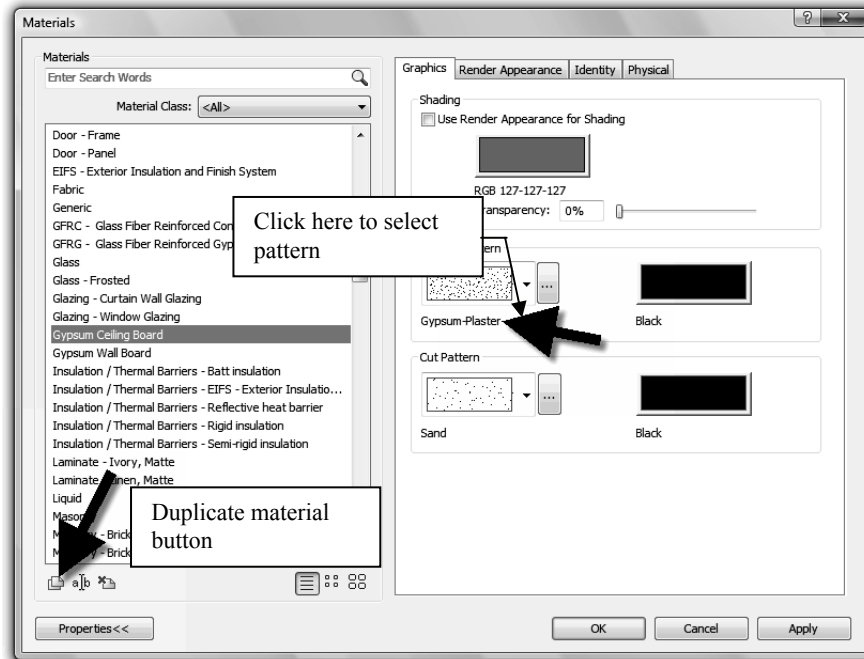

Figure 7-4.8 Materials dialog
14. Select *Gypsum Wall Board* in the *Name* list and then click the **Duplicate** button and enter the name: **Gypsum Ceiling Board** (see Figure 7-4.8).
15. In the *Surface Pattern* area, pick the button and select **Gypsum-Plaster** from the list, and then click **OK** twice (Figure 7-4.8).